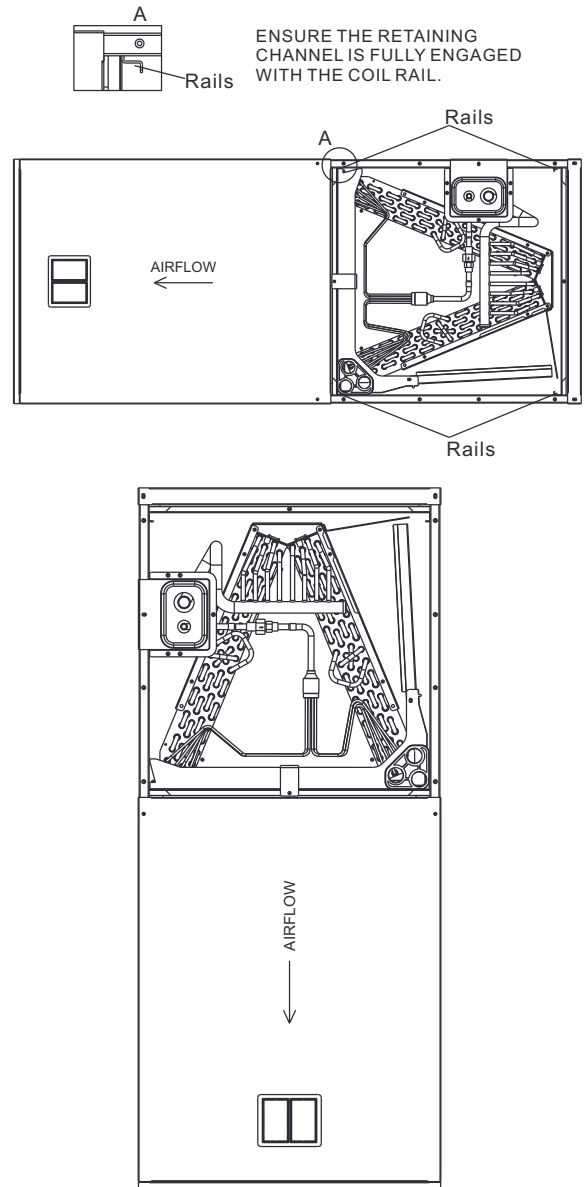

Fig.8 VERTICAL DOWNFLOW & HORIZONTAL LEFT APPLICATIONS
- 1) Rotate unit into the downflow position, with the coil compartment on top and the blower compartment on bottom. See Fig. 8.
- 2) Reinstall the indoor coil 180° from original position. Ensure the retaining channel is fully engaged with the coil rail. See Fig. 8.